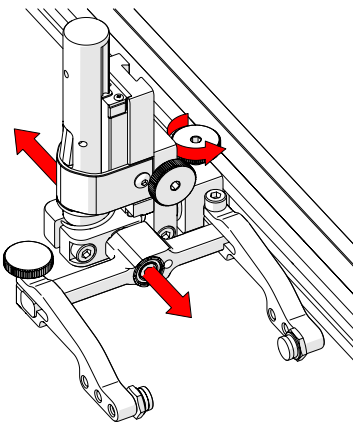

Fig. 121 - Adjust on frame bar
1. The probe holder adjustment knob allows the probe holder to be attached to a frame bar and adjusts horizontal positioning (*Fig. 121*).